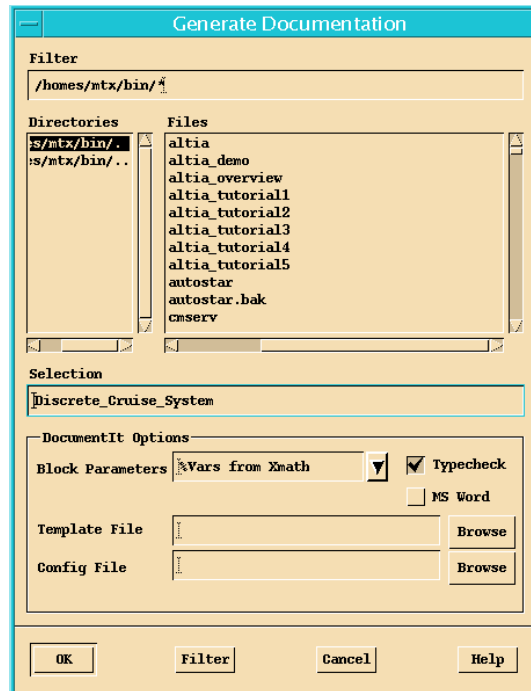

Figure 6-1. Generate Documentation Dialog
4. Select Tools→DocumentIt to bring up the Generate Documentation dialog (see Figure 6-1).